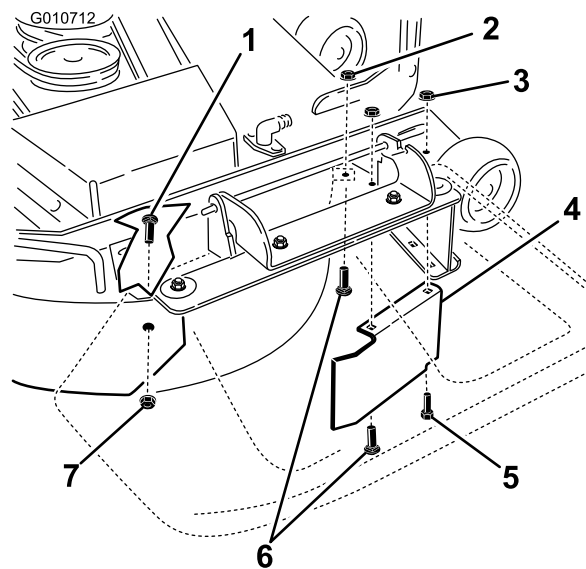

Figure 34
9. Remove the carriage bolt (5/16 x 3/4 inch) and locknut (5/16 inch) on the rear wall of the mower deck securing the baffle to the deck (Figure 34).
10. Locate the baffle guard at the front edge of the side discharge opening. Remove the fasteners securing the baffle guard and the right baffle to the mower deck as shown in Figure 34. Remove the baffle guard and retain all fasteners.
13. Install the fasteners removed previously at the front holes in the discharge plate and forward hole in the deck (Figure 34).